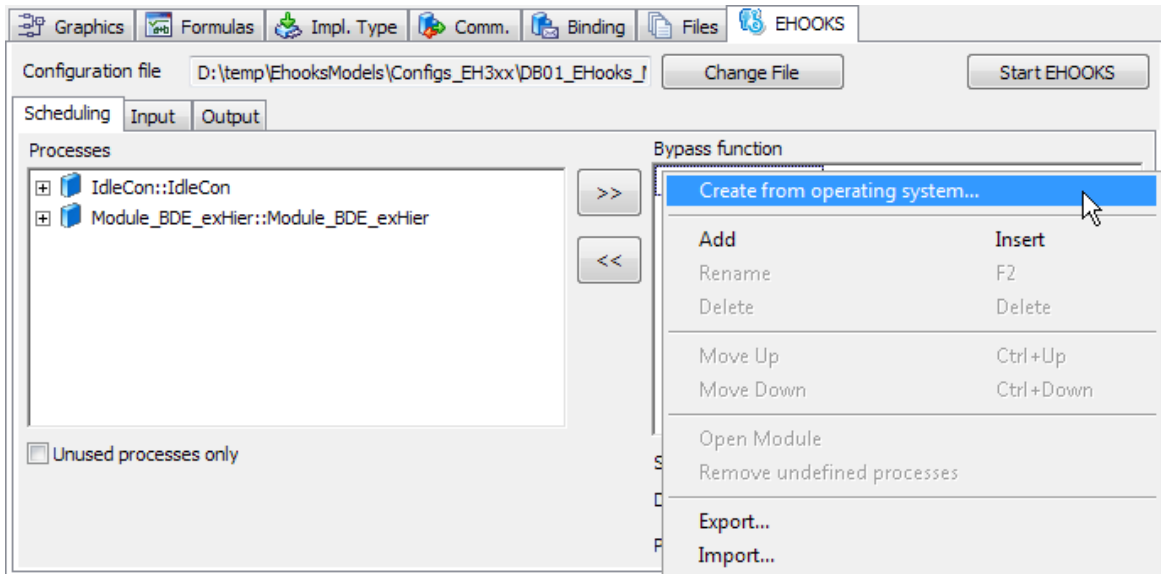

Figure 4.22: Copying an existing configuration from another target
- In the "Scheduling" sub-tab, right-click in the "Bypass function" field and select **Create from operating system** from the context menu (see Figure 4.22 on page 42).